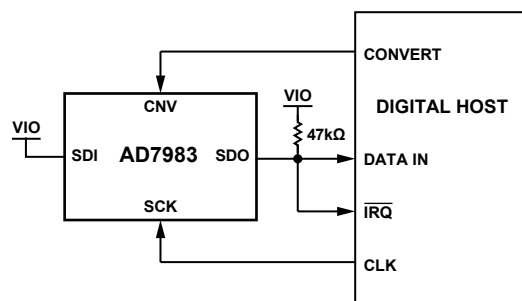
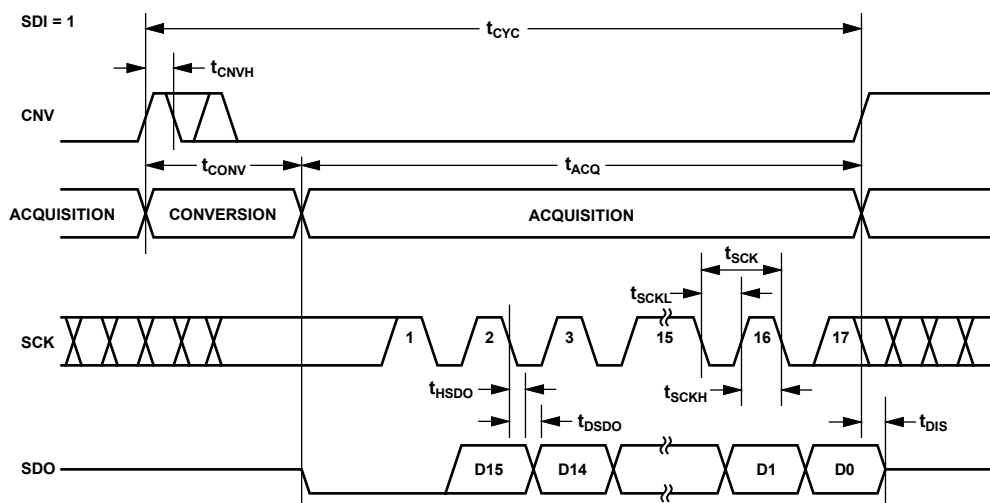
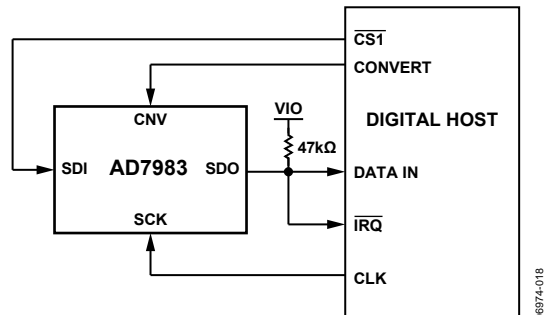
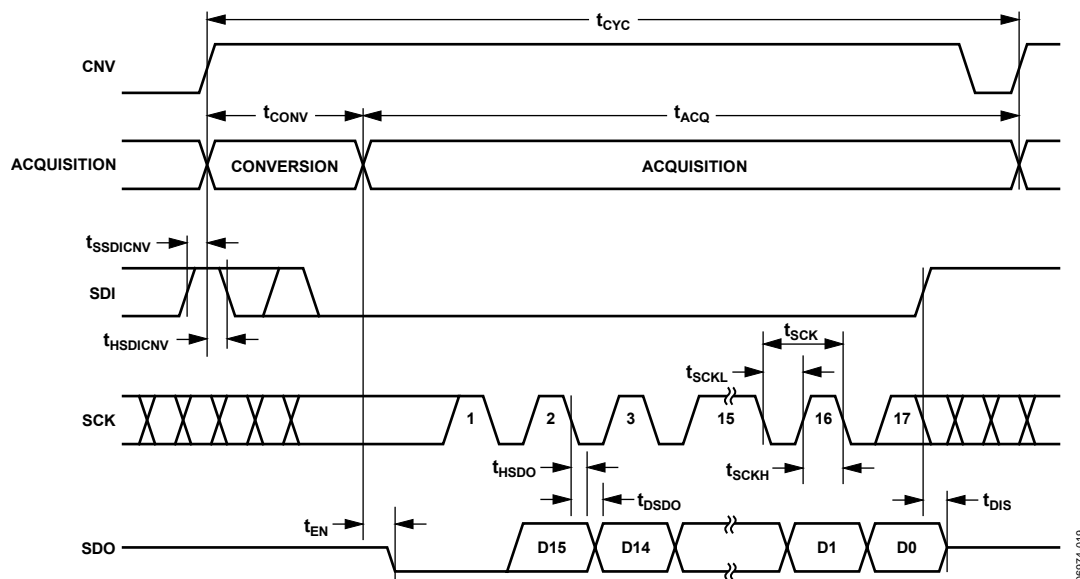

Figure 28.  $\overline{\text{CS}}$  Mode, 3-Wire with Busy Indicator Connection Diagram (SDI High)
Figure 29.  $\overline{\text{CS}}$  Mode, 3-Wire with Busy Indicator Serial Interface Timing (SDI High)
Figure 32.  $\overline{\text{CS}}$  Mode, 4-Wire with Busy Indicator Connection Diagram
Figure 33.  $\overline{\text{CS}}$  Mode, 4-Wire with Busy Indicator Serial Interface Timing
- In  $\overline{CS}$  mode if CNV or SDI is low when the ADC conversion ends (see Figure 29 and Figure 33).
The connection diagram is shown in Figure 28, and the corresponding timing is given in Figure 29.
The connection diagram is shown in Figure 32, and the corresponding timing is given in Figure 33.